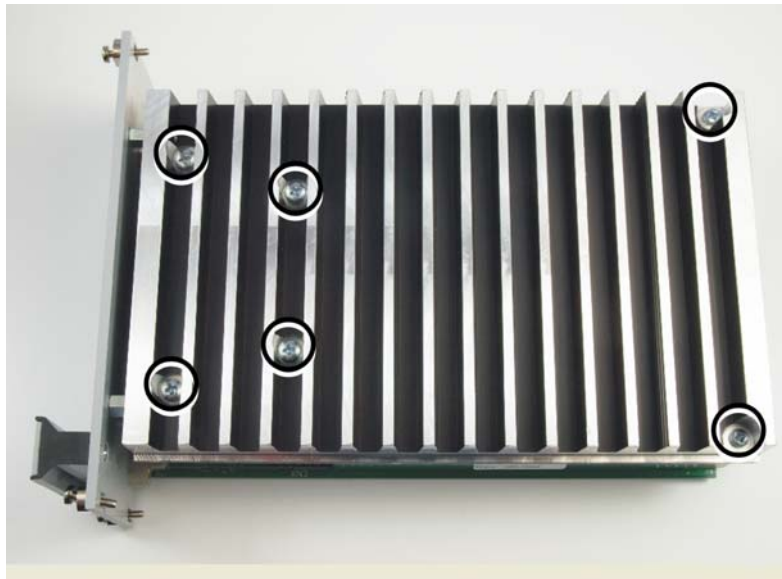

Figure 3: Fixation of heat sink to E-616 Controller module side
- To remove the heat sink of the E-616 Controller module unscrew the six labeled cross-head screws, see Figure 3 below